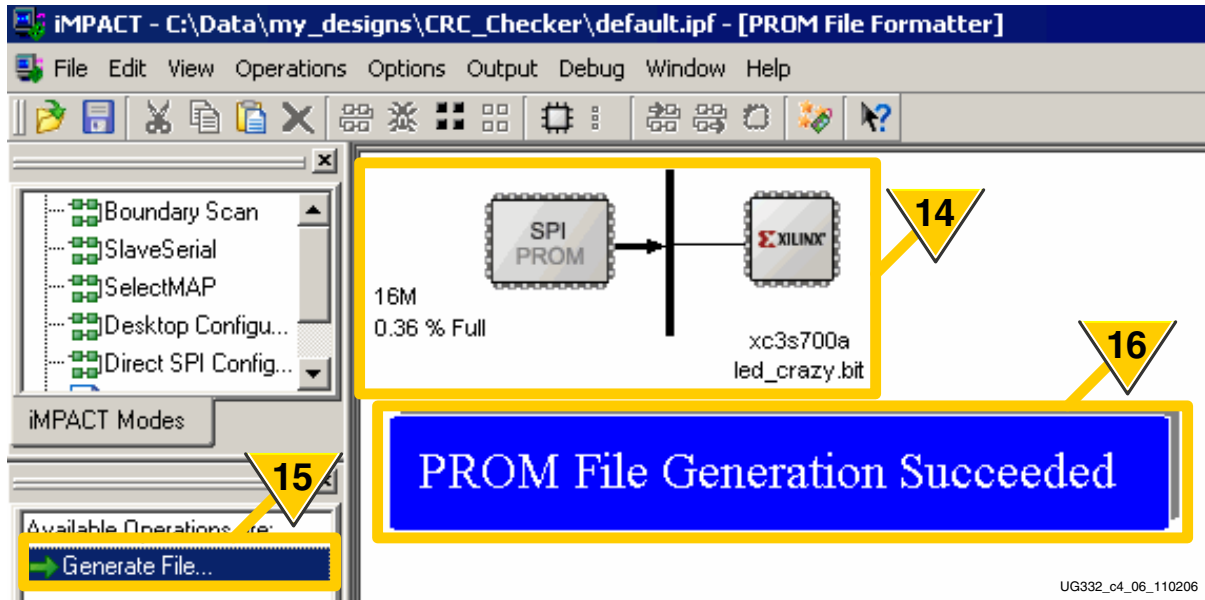

Figure 4-15: Generate PROM File
- As shown in Figure 4-15, the iMPACT software graphically displays the SPI PROM and associated FPGA bitstream(s).